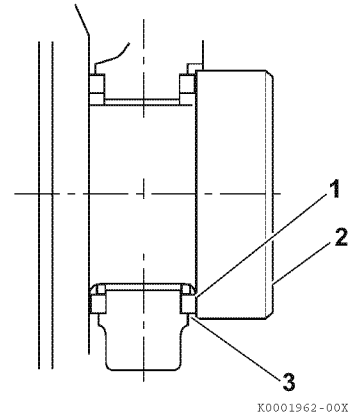

Figure 6-53
- **Method B:** Use a feeler gauge to measure the clearance (**Figure 6-53, (3)**) between the thrust bearing (**Figure 6-53, (1)**) and crankshaft (**Figure 6-53, (2)**). Record the measurement. See *Thrust Bearing* on page 6-7 for the service limit.